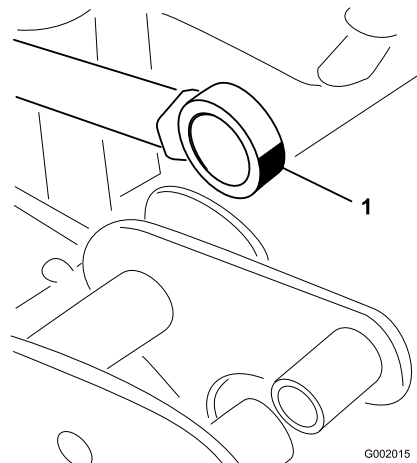

Figure 50
5. Manipulate the actuator rod bearing end and apply grease into the bearing (Figure 50). Wipe off excess grease.